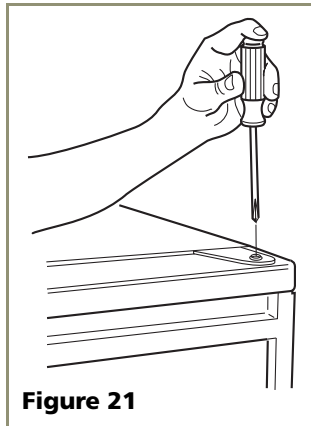

Figure 21
1. Remove top hinge screw pin (Phillips screwdriver, see **Figure 21**). Remove door by tilting forward and lifting off bottom hinge pin.